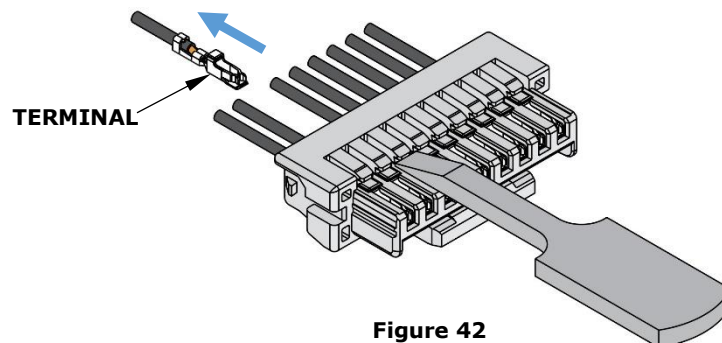

Figure 42
8. With the retention latch raised, gently pull on the wire to remove the terminal. See Figure 42.